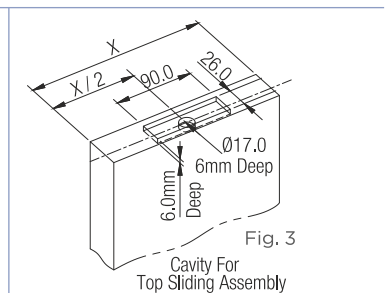

Fig. 3
3. Cut a cavity in the center of top side of door as per fig.3 & screw in Top Sliding Assembly.